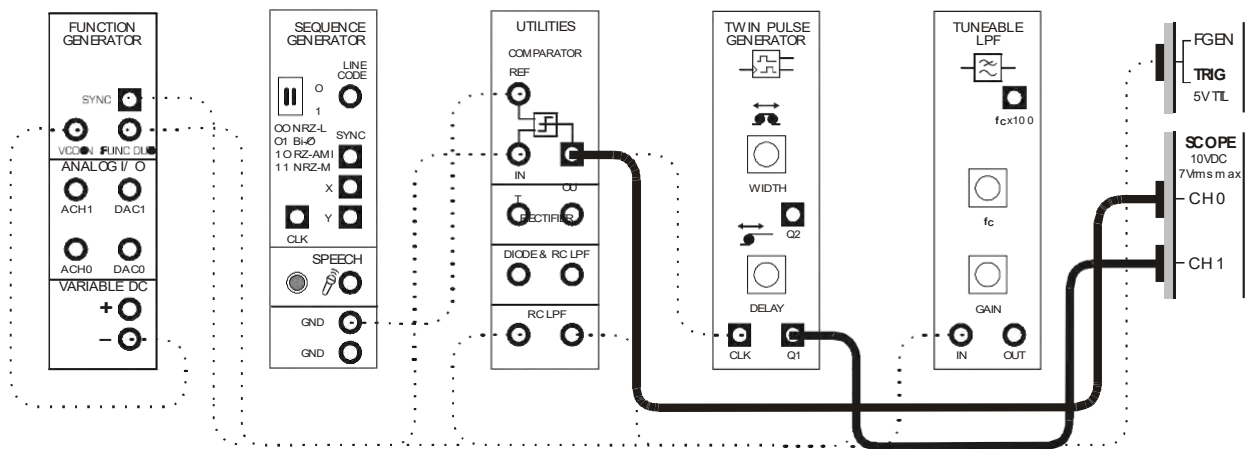

Figure 10
32. Rearrange the scope's connections to the set-up as shown in Figure 10 below.